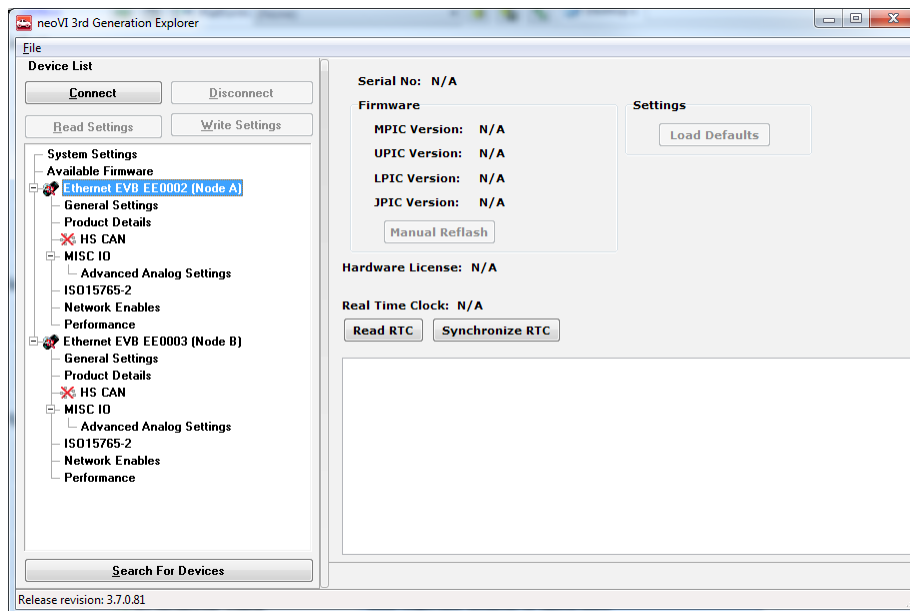

Figure 39: Vehicle Spy 3 Hardware Explorer.
A dialog box will appear showing all of the Intrepid hardware devices that Vehicle Spy 3 sees connected to the host computer. In the list you should see two entries for the EEVB, corresponding to the two Ethernet nodes on the board. These should appear as **Ethernet EVB** followed by a serial number starting with **EE** followed by 4 additional characters (Figure 39).
- 2. Connect to the First EEVB Node:** Node A of the EEVB may already be selected, as shown in the example in Figure 39; if it is not, then click it. Once the node is selected, press the  button above the hardware list.